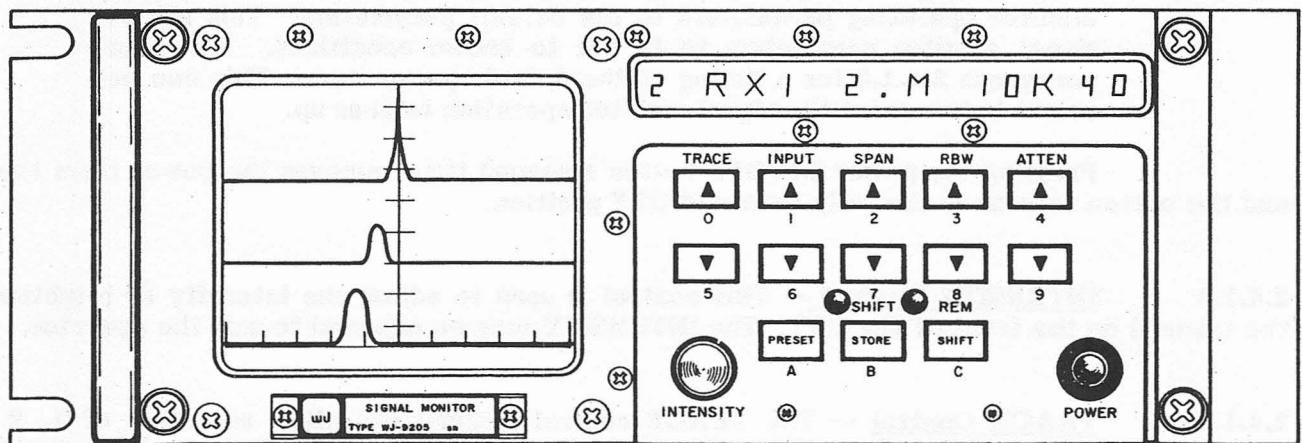

Figure 2-2. WJ-9205 Signal Monitor, Front Panel Controls and Indicators
The WJ-9205 Signal Monitor provides a visual indication of spectrum for the 21.4 MHz IF signals from one, two or three separate receivers simultaneously on its 4.0 inch (diagonal) CRT. Operation is controllable from the front panel controls or via its IEEE-488 remote interface and a suitable controller. The various switches, controls and indicators used on the monitor during local operation are discussed in the following paragraphs. **Table 2-2** lists the controls and indicators. With the exception of the ac input voltage selector switch, all controls and indicators are on the front panel of the unit. See **Figure 2-2** as a reference for the location of the front panel controls and indicators.
The keyboard consists of ten buttons labeled 0 to 9, as shown in **Figure 2-2**. Buttons 0 to 4 have up arrows imprinted on them, while buttons 5 to 9 have down arrows. Each button pair (0-5, 1-6, 2-7, 3-8, 4-9) causes the value in the display directly above the buttons to cycle either up or down the number of times the button is pressed. The top buttons (0 to 4) cause the number to get larger or the display to cycle up. The bottom buttons (5 to 9) cause the number to get smaller or the display to cycle down.
2.4.1.12 **Display** — An alphanumeric 16 character LED display provides visual indication of working parameter conditions. Refer to **Figure 2-2** for a typical alphanumeric display. The display is viewed through a display window which is located above the keypad on the front panel and divided into five fields. The display indicates the parameter setting: **TR** (Trace), **INPUT**, **SPAN**, **RBW** (Resolution Bandwidth), and **ATTEN** (Attenuation). The display is also used to display messages such as the product number, software version (**WJ-9205-X.X.X**) and to alert the operator of failure conditions. The position of each part of the display and spacing of the display is as follows: